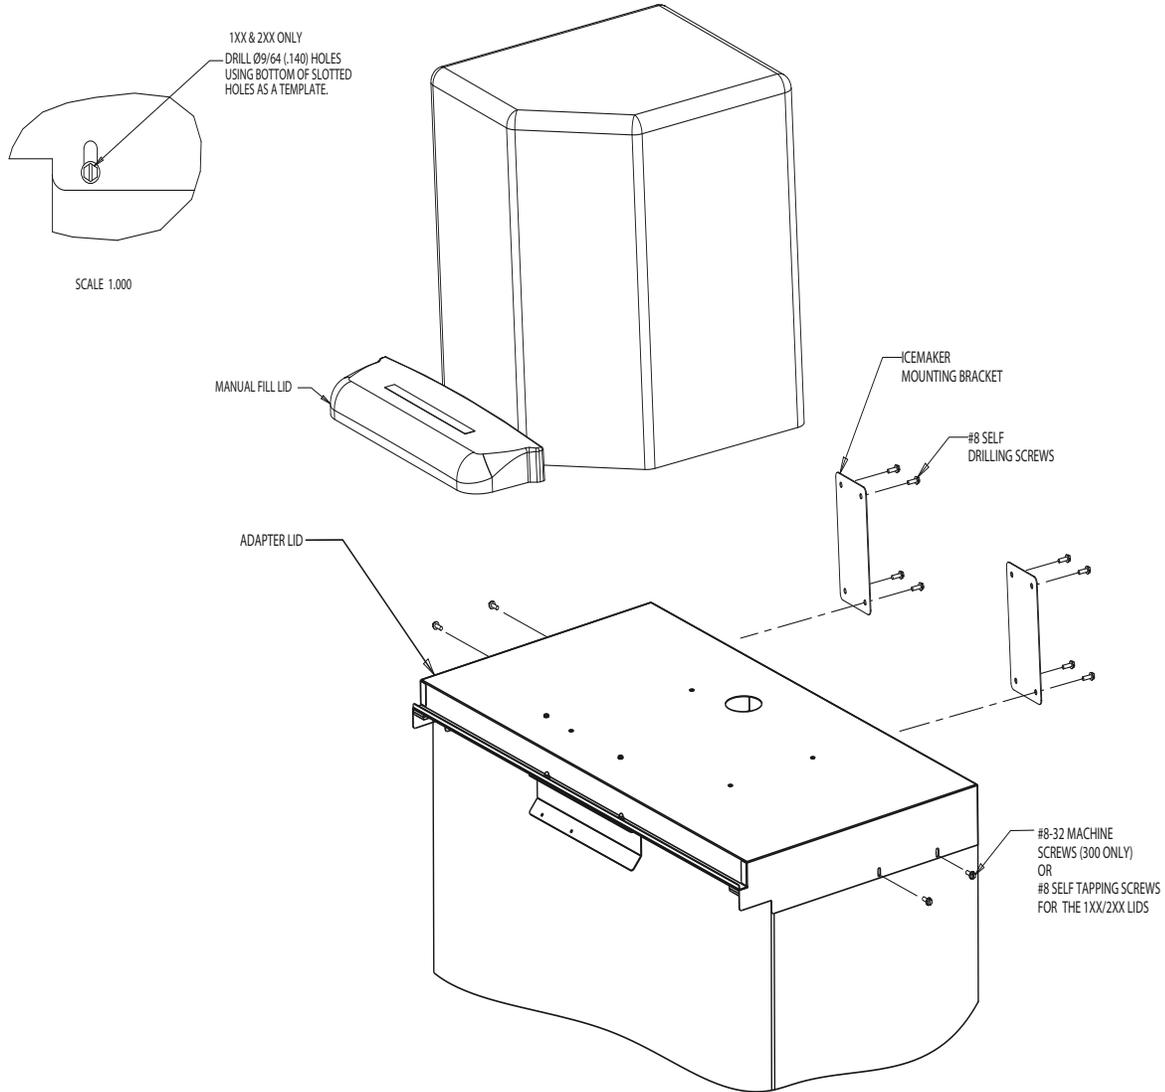

Figure 2. Dispenser Assembly
5. Set and secure adapter lid onto the dispenser as shown in Figure 2.